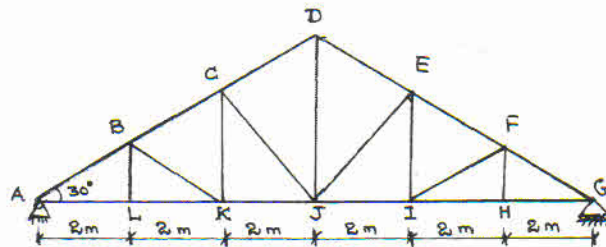

Fig.Q3
3. Line diagram of a Howe truss with tabulation of member forces are shown in Fig.Q3. Design various member of roof truss along with their end connections with gusset plate of 10 mm thick, by using M₁₆ bolts of grade 4.60. The truss rests on 300mm × 500mm size column made of M₂₀ grade concrete. Design the support bearing plate, base plate for a reaction of 120 kN and anchor bolts for an uplift force of 18 kN. (40 Marks)